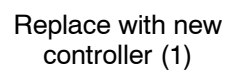

FIG. 9 - 6500 / 6550 Controller Location LP / Gas / Diesel
16. Locate the controller located under the dash panel, to the left of the steering control motor. (Fig. 9)
19. Set up the controller (1). Refer to the **SET UP NEW DIGITAL CONTROLLER** instructions for information to setup the controller.
20. Connect the main wire harness to the controller (1). Do not secure the controller to the machine. The controller is secured to the machine after it is tested.
24. Install the controller into the machine. (Fig. 9)